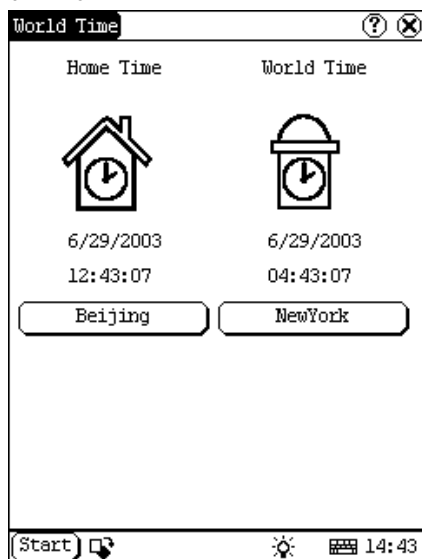

Figure 4-08
- 4) Then you can see the time directly. (See Figure 4-08).